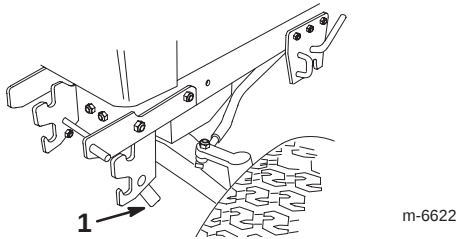

Figure 6
3. Pull the release lever and remove the pulley box (Fig. 6).
Note: The pulley box is not shown in Figure 6 for the purpose of clarity.
1. Remove the release lever from the front Attach-A-Matic hitch (Fig. 6).